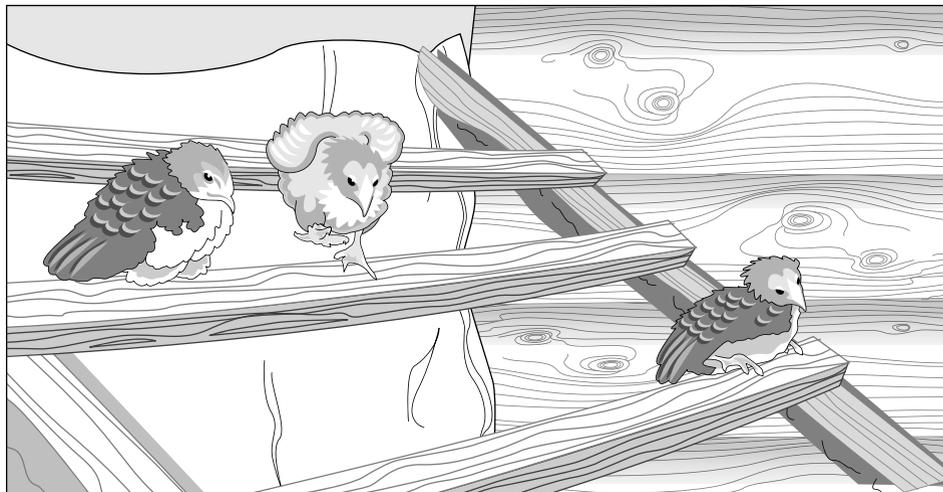

Figure 2-1:
- ✓ **Roosts:** A *roost* is where your chicken will sleep. True free-range chickens in the wild find a tree branch to perch on each night to sleep. This offers them protection from non-climbing predators, and a branch under the canopy of a tree can provide cover from hungry owls and nasty weather. In your coop, a horizontally-oriented pole or board that's elevated off the floor serves the same function, as seen in Figure 2-1.